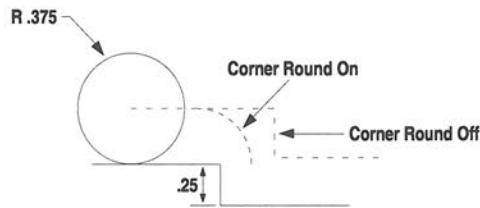

Figure 7-5
2. If the program calls for making a step less than the cutter radius, gouging occurs if corner rounding is turned on. Corner rounding may be turned off in the cutter compensation mode, to correct this problem. See Figure 7-5.